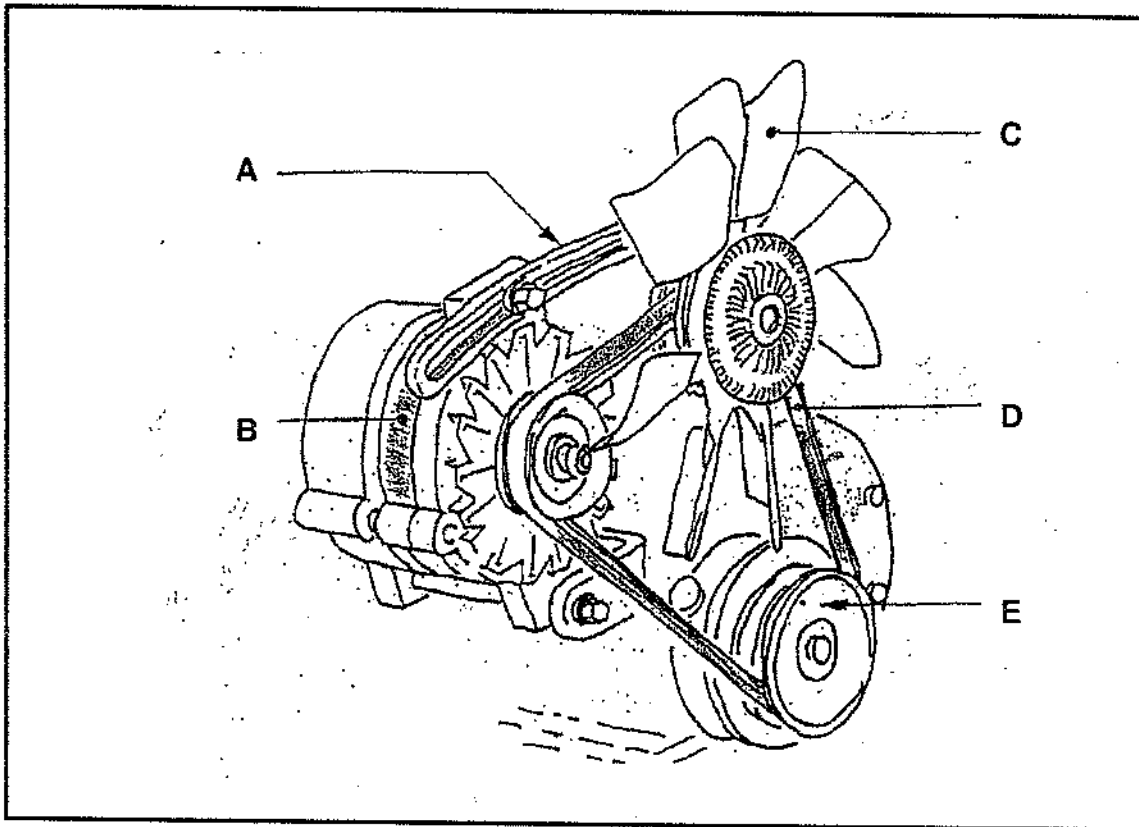

FIGURE 1
1.2 FIGURE 1 below shows a sketch of an engine. Name the parts by writing each answer next to the letter (A–E) in the ANSWER BOOK.